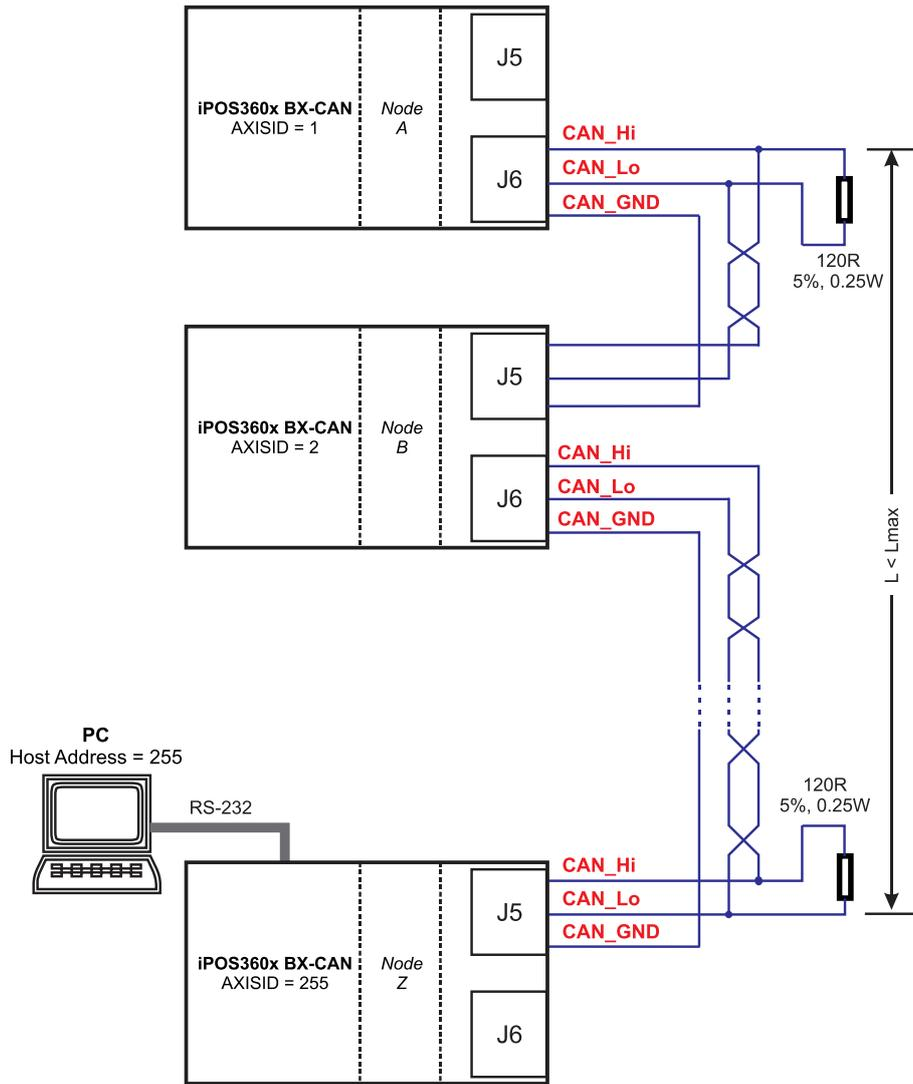

Figure 3.24. Multiple-Axis CAN network
1. The axis IDs in **Figure 3.24**, are valid for TMLCAN mode. For CANopen mode, the highest axis ID a drive can have is 127.